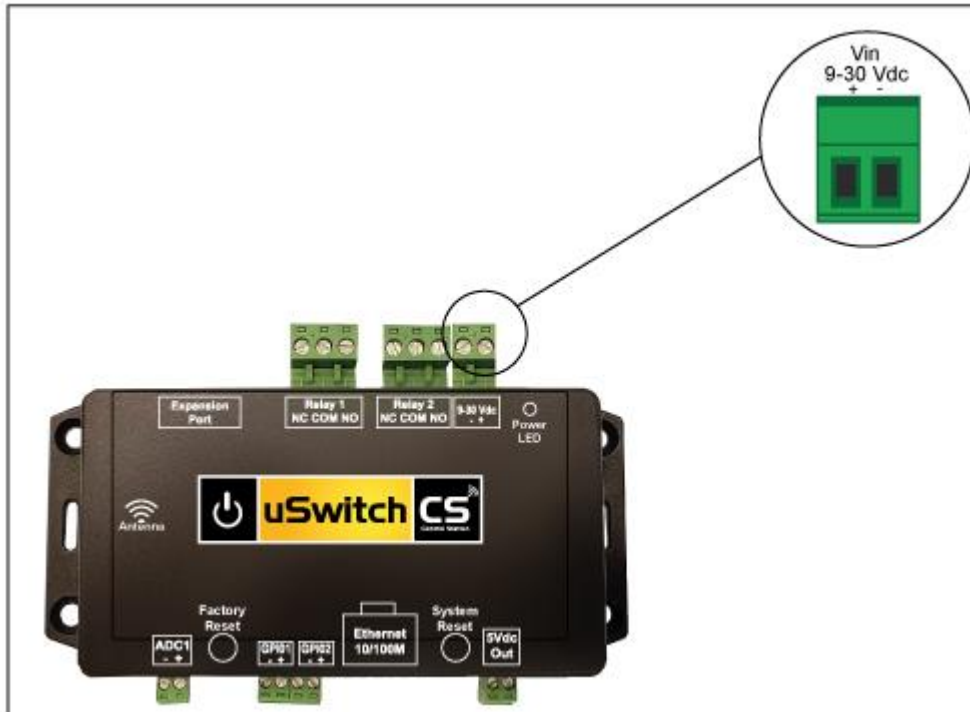

Figure 1
1. uSwitchCS can be powered by any DC voltage between 9-30 Vdc. Connect an appropriate DC power supply to the + and - terminals in Figure 1 (regulated power supply recommended). The power supply should be rated to meet the operating current of the uSwitchCS (see appendix C for power specifications) along with any expansion modules that receive power from the uCS. As shown in the photo, the positive terminal is closest to the outside edge; the negative terminal closest to the "Relay 2" connector.